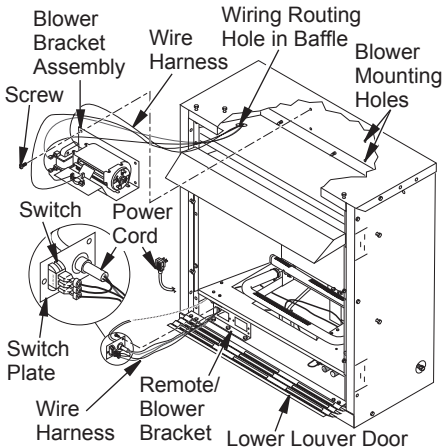
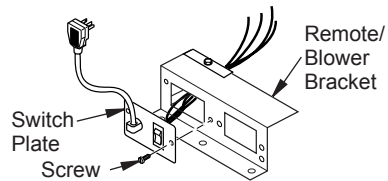

Figure 14 - Installing Blower Bracket Assembly (Remote-Ready Unit Shown)
Figure 16 - Installing Switch Plate to Remote/Blower Bracket
- Note the wire locations on back of AUTO/OFF/ON switch. The terminals on back of switch are numbered 1, 2 and 3. Carefully remove red wire from terminal 3 and blue wire from terminal 1. Black wire can remain on middle terminal 2 (see Figure 14).
- In top of the fireplace cabinet, locate the four mounting holes on the outer casing. Align these four holes with those on the blower bracket assembly. Attach blower bracket assembly to the outer casing with 4 #10 screws provided (see Figure 14).
- Insert the 4 wire harnesses from behind the remote/blower bracket through hole in rear of bracket with bushing and through the left rectangular hole to front of fireplace (see Figure 14).
- Install the switch plate on the remote/blower bracket with 2 #10 screws provided (see Figure 16). Route power cord out of the cabinet by inserting it through the bushing on the outer casing (see Figure 14). Plug fan kit into 120-Volt grounded power supply and test operation. Note: When switch is in the AUTO position, the fan will start after the fireplace has run for a few moments. The fan will continue to run for several moments after the fireplace has been turned off. When switch is in the ON position, the fan will run until turned OFF.